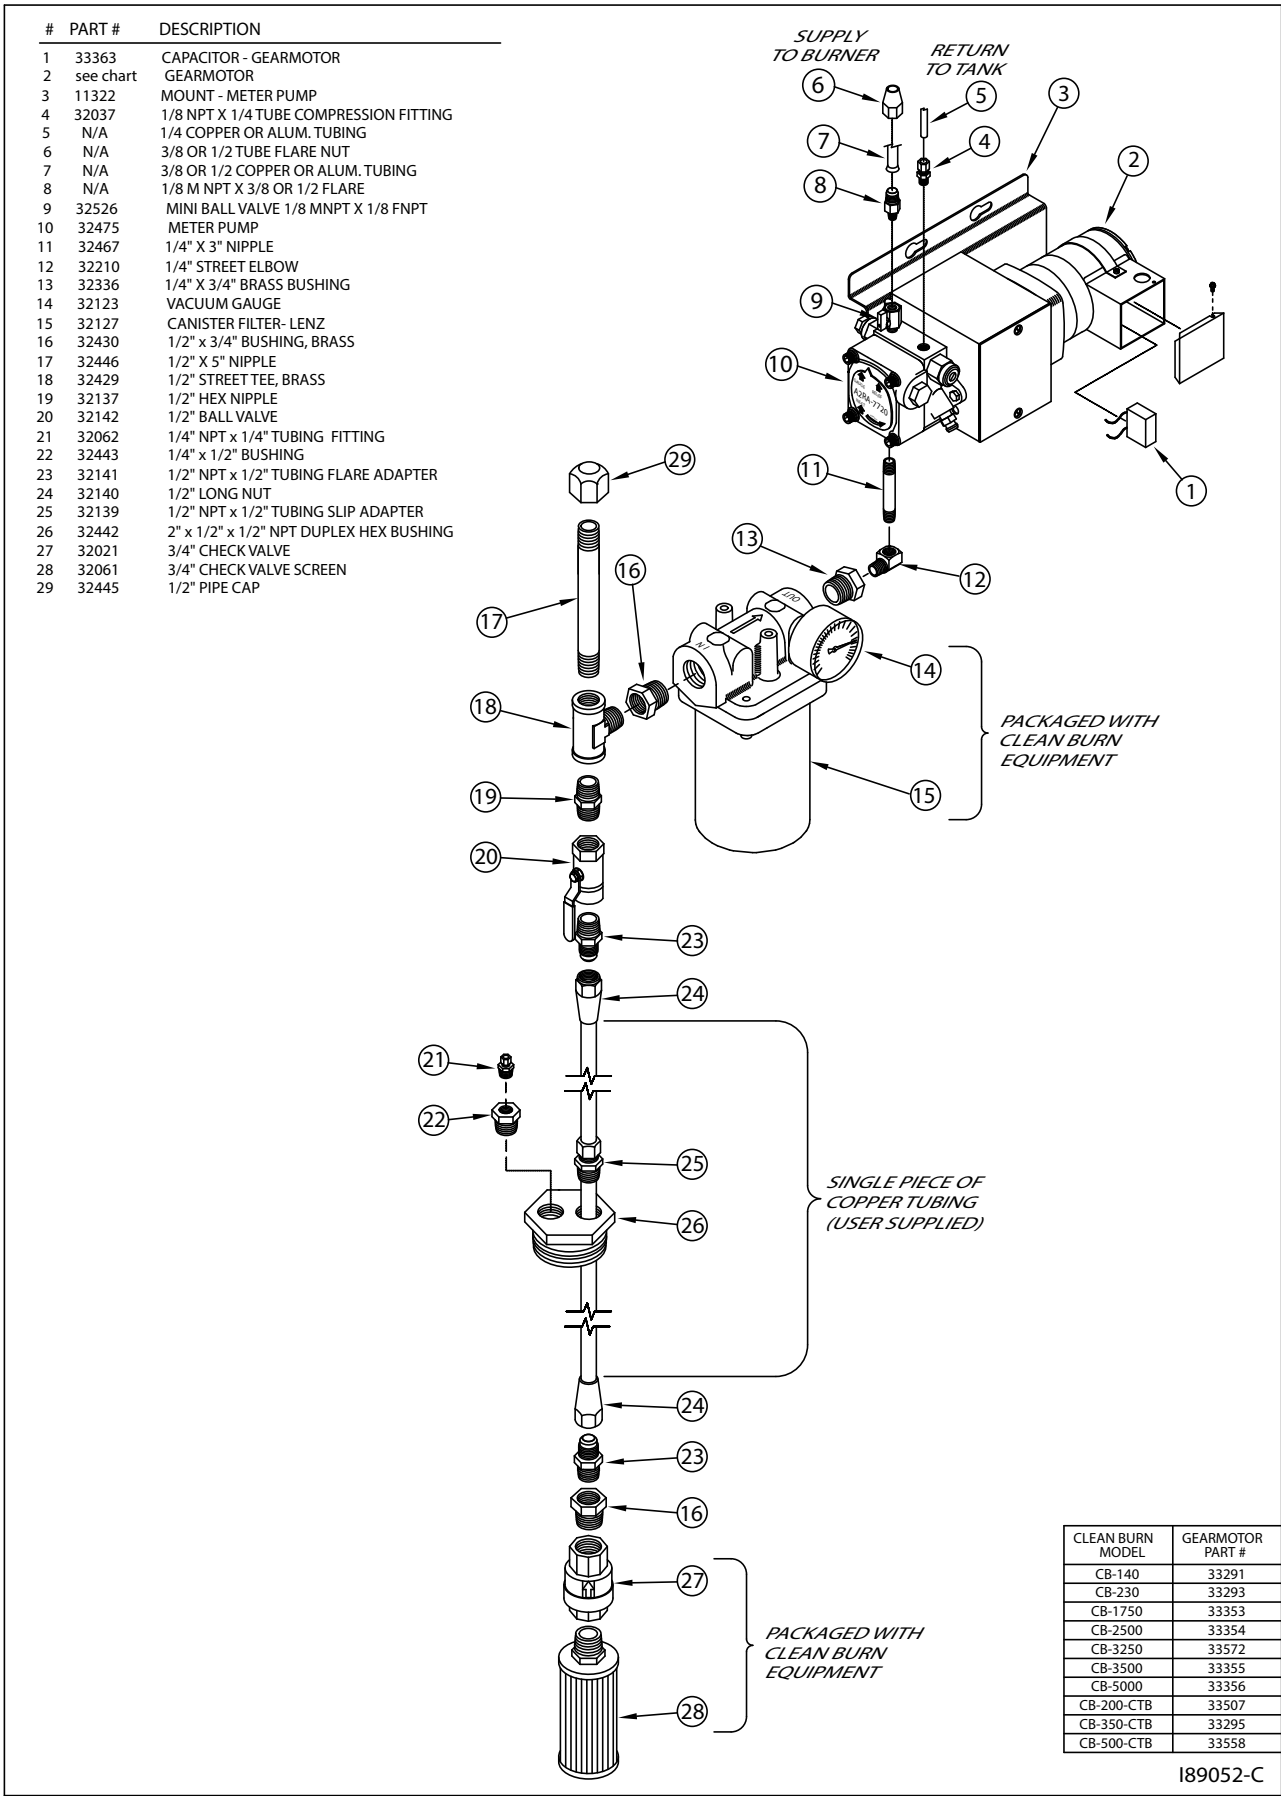

Figure 4F - Metering Pump Component Detail
- Verify that you have the proper metering pump for your boiler (note the specific gear motor part numbers shown in Figure 4F).
1. Refer to Figures 4F and 4G.
- a. Refer to Figure 4F for a detailed look at the metering pump components and fittings.